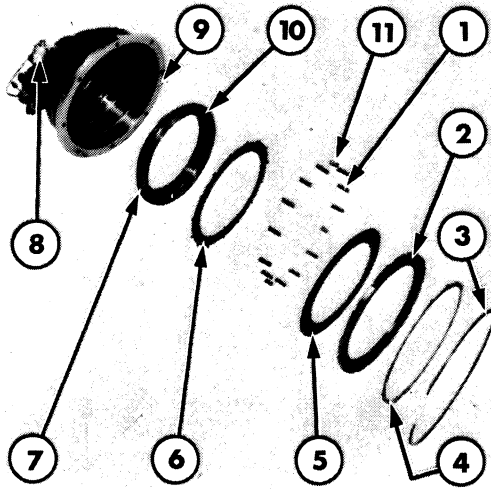

Figure 16
3. Remove the spring retainer, pressure plate and friction plate, Figure 16.